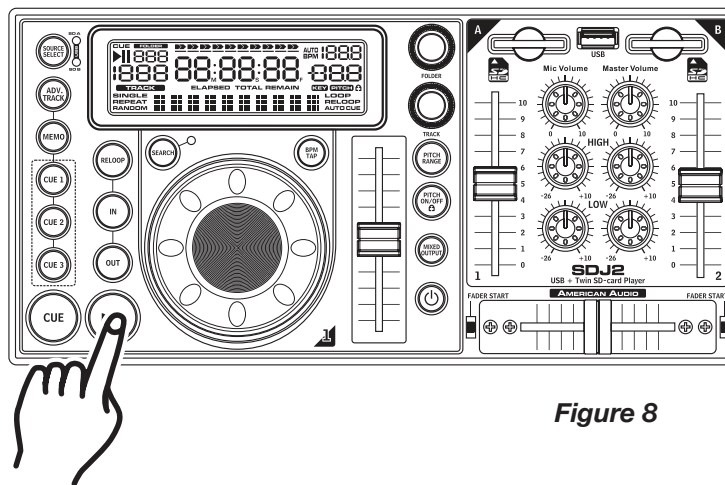
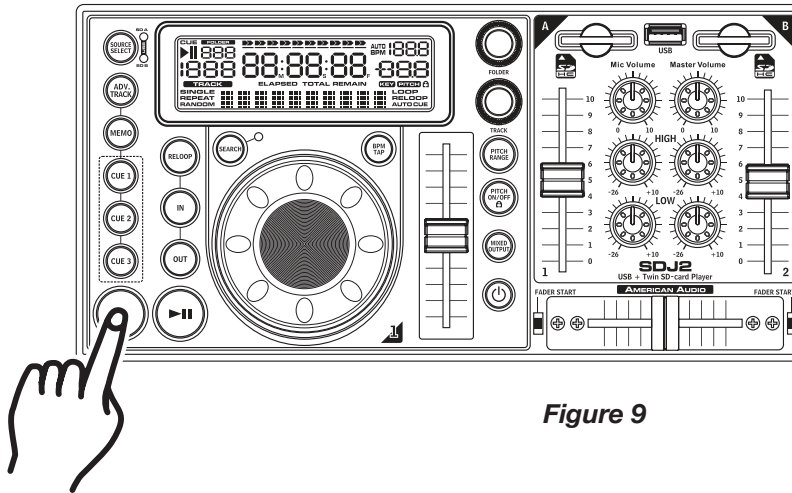
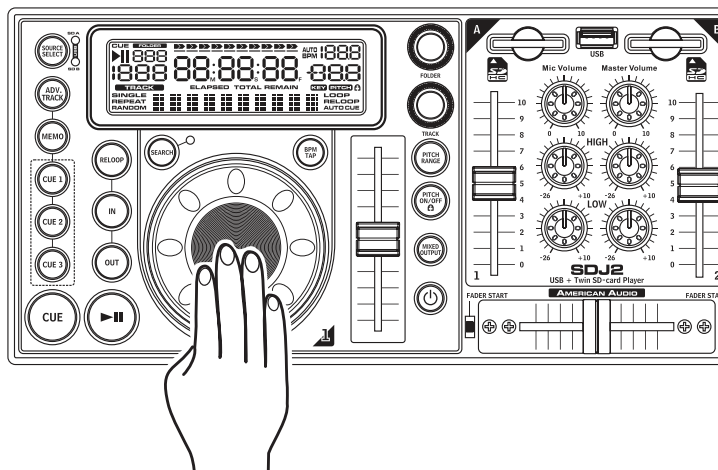

Figure 8
Figure 9
Figure 10
### 4. STARTING PLAYBACK - Figure 8
### 5. PAUSING - Figure 9
This feature allows you to scroll through a track frame by frame, allowing you to find and set a starting cue or loop point. To use the scroll function you must first be in Pause Mode (see section 5) or Cue Mode (see section 8). Once you are in Pause or Cue mode, make sure that the *SEARCH BUTTON (17)* is deactivated and then use the jog wheel to scroll through the track (Figure 10). When you use the search function the monitor (headphone level) function allows you to here what you are scrolling through. Once you reach your desired starting point you can set a cue (starting) point by pressing the *PLAY/PAUSE BUTTON (18)* as in Figure 8. Pressing the *CUE BUTTON (19)* as in Figure 9 will now return you to the point you just set.
### STOPPING PLAYBACK - Figures 8 & 9